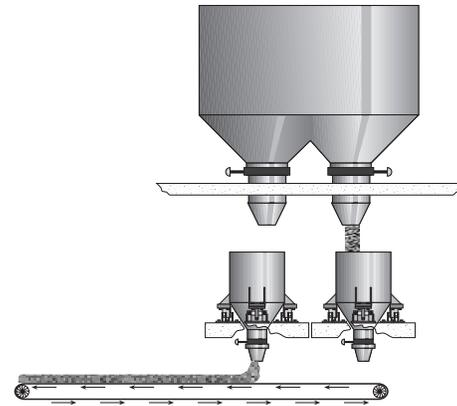

Figure 1-9
The systems described up to this point deliver a single material in pulses rather than from a continuous flow. They may be used for in-plant process weighing or custody transfer. Figures 1-9 and 1-10, described below, provide a continuous material flow and are more often used for process weighing.
E. Figure 1-9 illustrates a single storage silo with two weigh hoppers suspended underneath. This arrangement can be used to provide material continuously to a process. As one hopper is emptying, the other can be filling. If the system is sized correctly, there is no interruption to the material flow on the discharge belt.